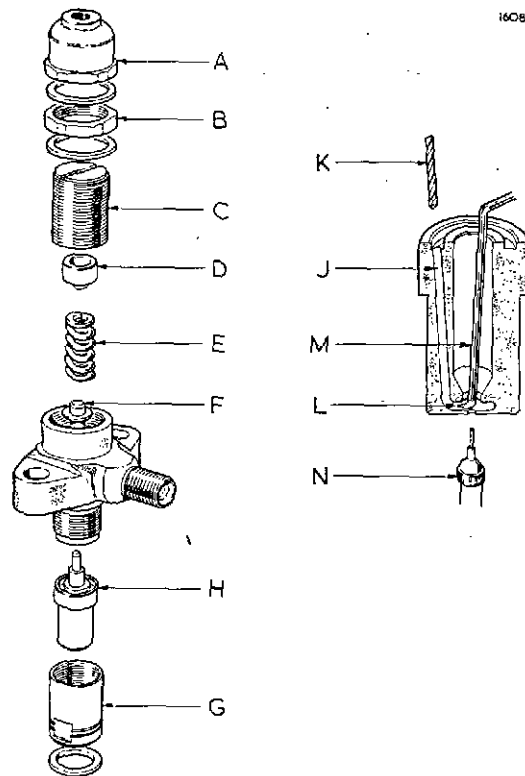

Fig. 14
63. Fuel injector maintenance (Fig. 14)
- (b) Remove the nozzle holder cap nut (A) and the locknut (B).
- (c) Remove the spring adjusting screw (C) and remove the spring pad (D), the spring (E) and the spring pressure rod (F).
- (d) Remove the nozzle nut (G) and the nozzle assembly (H). Each needle of a nozzle assembly is mated to one nozzle body and must never be used in another.
- (g) The nozzle body fuel holes (J) should be cleaned by pushing a wire or twist drill (K) down to the fuel chamber (L) being careful not to scratch the joint face.
- (h) Insert a nozzle scraper (M) down into the fuel chamber, press sideways and rotate to remove carbon, etc.
- (j) Soft carbon can be removed from the spray hole with a spray hole cleaner (N).